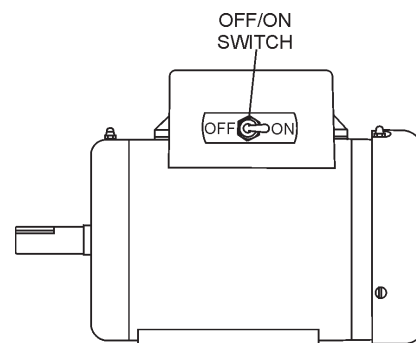

Figure 20. Electric Motor ON/OFF Switch
- To start the electric motor, move the **ON/OFF** switch to the ON position (Figure 20).